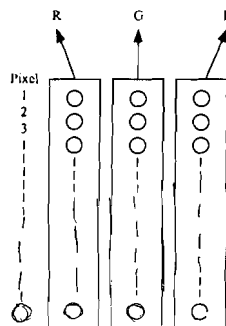

Figure 4: Colour Planes
Colour Depth (or the number of *Colour Planes*) is the number of bits assigned to each pixel to code colour information in it. These are also called *Colour Planes* because each bit of a pixel represents a specific colour and the bit at the same position on every pixel represents the same colour. Hence, the bits at the same position can be thought of as forming a plane of a particular colour shade and these planes piled on top of each other give the final colour at each point. Thus, if each pixel is described by 3 bits, one each for red, green and blue colour, then, there are 3 *Colour Planes* (one each for red, green and blue) and 6 colour planes if there are 6 bits — see Figure 4.
1. Redraw Figure 4 showing Colour-Planes for a true-colour system.